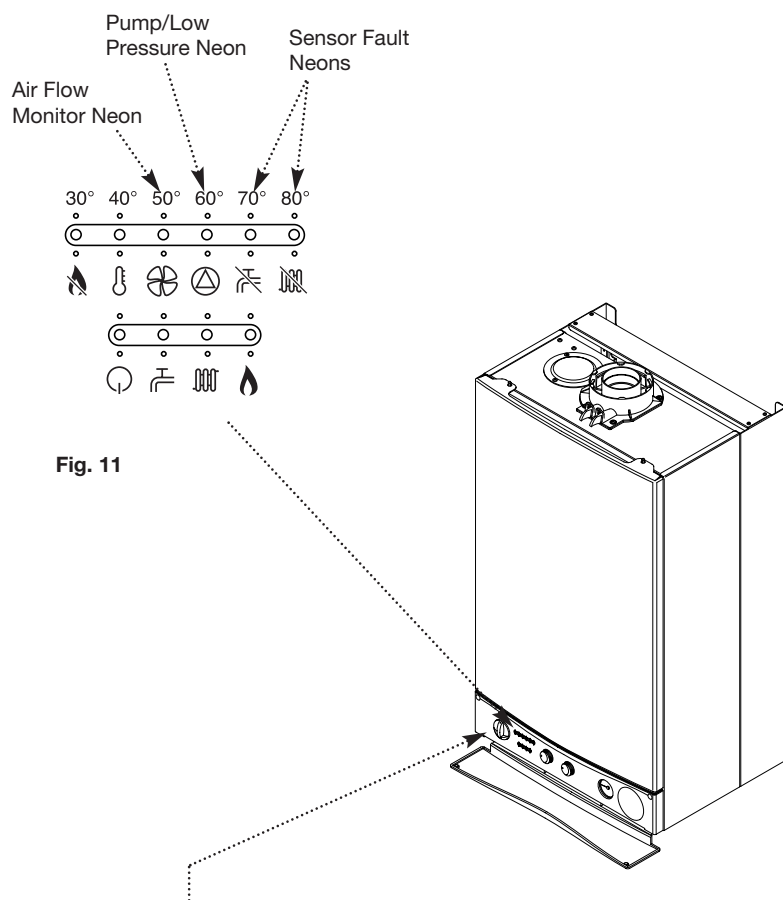

Fig. 11
2. If the neon illuminates () it indicates that the flue or flue terminal is blocked or obstructed in some way, or that there is an internal fault. If there is no external blockage of the flue terminal that can be easily removed contact your Installer or Service Engineer (Fig. 11).
1. The neon () will illuminate if the circulating pump is faulty or the system pressure drops below the minimum requirement (Fig. 11).
1. When the () or () neon is illuminated a fault on the hot water or central heating temperature sensor is indicated (Fig. 11). Contact your Installer or Service Engineer.